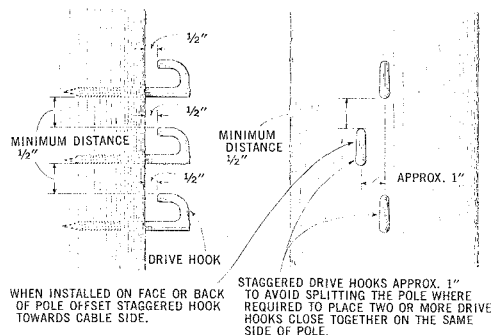

Fig. 1 — Drive Hooks Installed in Pole
1.02 This section is reissued to revise Fig. 1.
3.01 Hold the drive hook with one hand until it is driven well into the pole in order to prevent it from being dislodged when struck with the hammer. When placing more than one drive hook on the same side of the pole stagger the hooks as shown in Fig. 1. Try to obtain greater than the minimum vertical separation between hooks, particularly for paralleling drops.